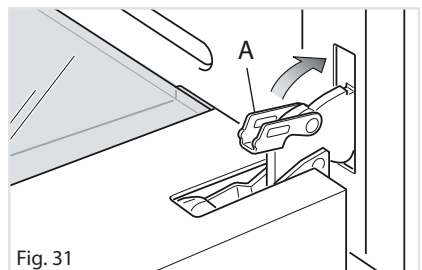

Fig. 31
- Unlock the oven door by opening it completely and closing the lever **A** on the left and right hinges (fig. 31).